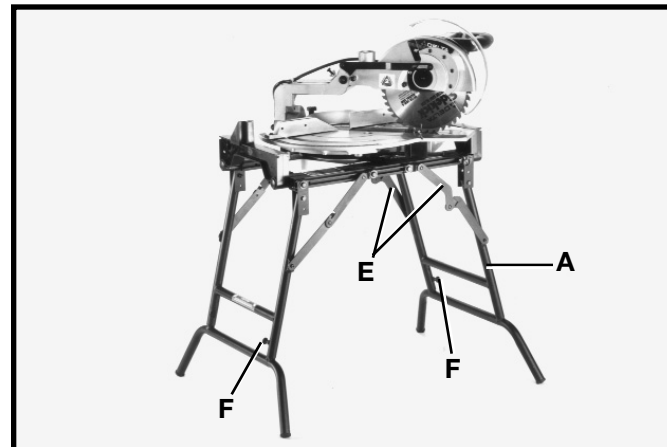

Fig. 8
4. Raise the right side of the machine and unfold right leg (A) Fig. 8. Lock right leg (A) in position by pushing hinges (E) inward.
5. Loosen four lock knobs on leg assemblies, two of which are shown at (F) Fig. 8.